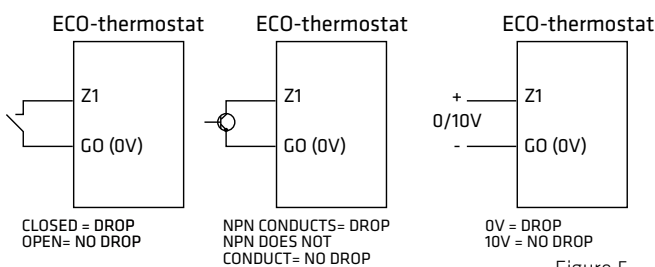

Figure 5
4. You can activate temperature drop function by connecting terminals Z1 and G0 in the thermostat as shown on figure 5.
5. If the temperature drop function is taken into use, connect it as shown on Figure 5.